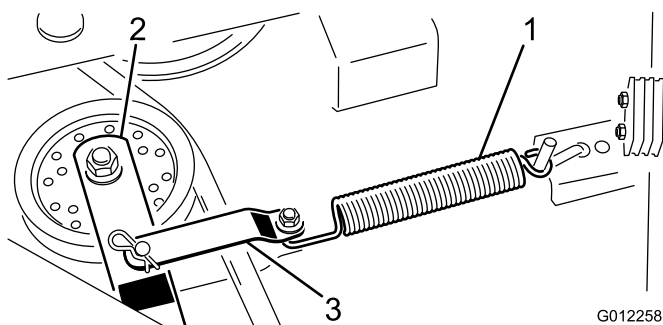

Figure 22
- Unhook the spring from the idler arm bracket to release the belt tension (Figure 22). Remove the cotter pin and clevis pin securing the idler arm bracket to the idler arm.
- Install the idler arm bracket to the idler arm with the cotter pin and clevis pin (Figure 22). Hook the spring onto the idler arm bracket. To ensure that there is proper tension on the drive belt, the spring should be extended to a length of approximately 7 inches (18 cm). If the spring is not extended to this length, relocate the spring rod to a new mounting hole further away from the belt.